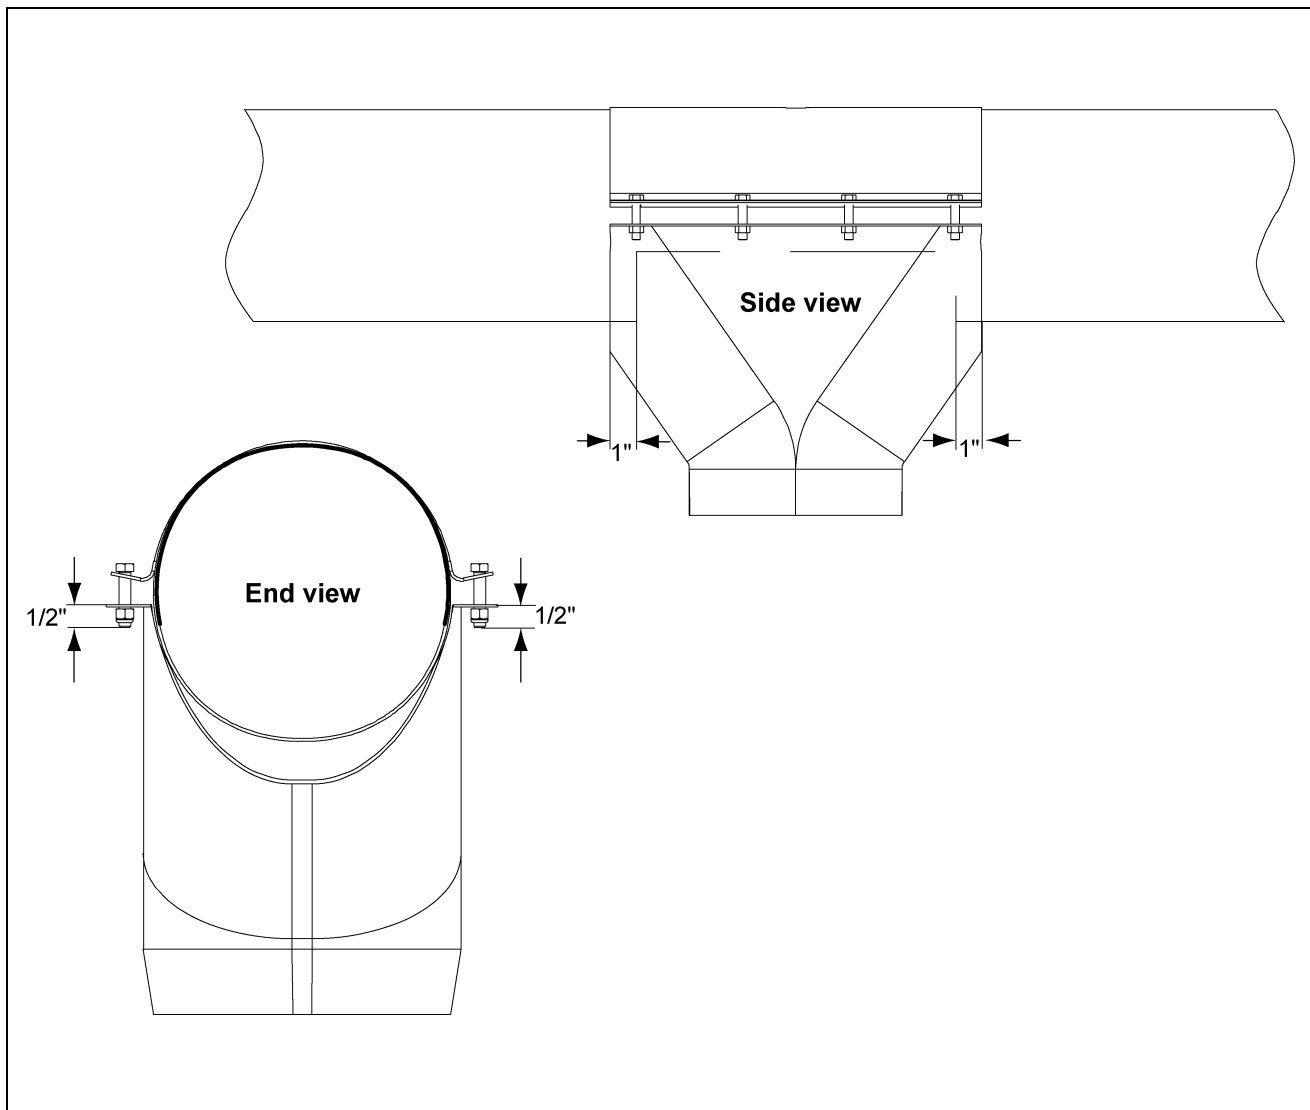

Figure 4AC
5. Carefully measure the outlet before cutting. Follow the recommended guidelines as shown in Figure 4AC. It is very important that the opening be large enough not to reduce capacity, but small enough so the outlet can be covered securely by the spout.